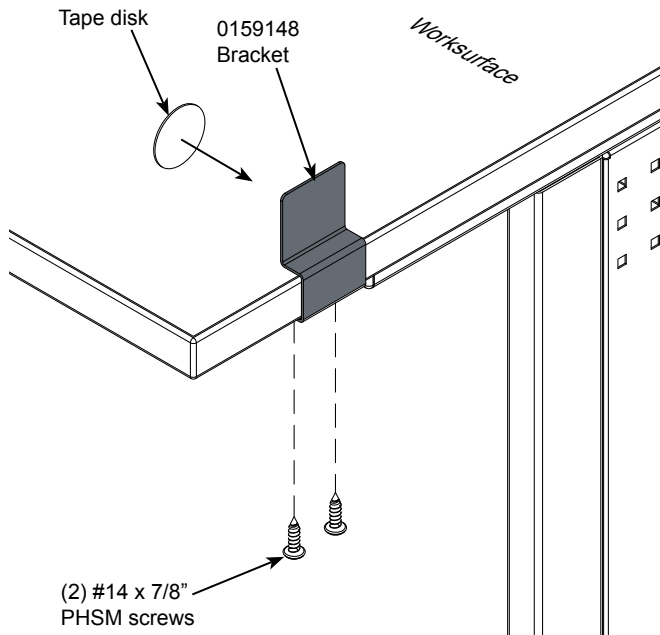

Figure 5
1. Attach the bracket to the right side of the worksurface with (2) #14 x 7/8" PHM screws as shown. **Figure 5.**